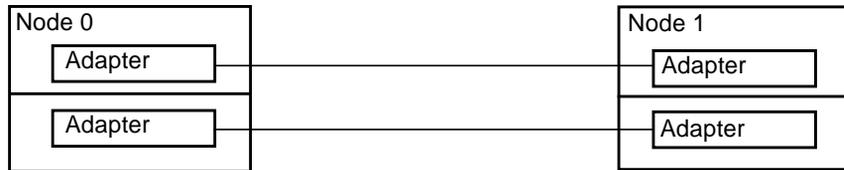

FIGURE 3-1 Typical Two-Node Cluster Interconnect
- A cluster with only two nodes can use a point-to-point connection, requiring no cluster transport junctions. Use a point-to-point (crossover) Ethernet cable if you are connecting 100BaseT or TPE ports of a node directly to ports on another node. Gigabit Ethernet uses the standard fiber optic cable for both point-to-point and switch configurations. See FIGURE 3-1.